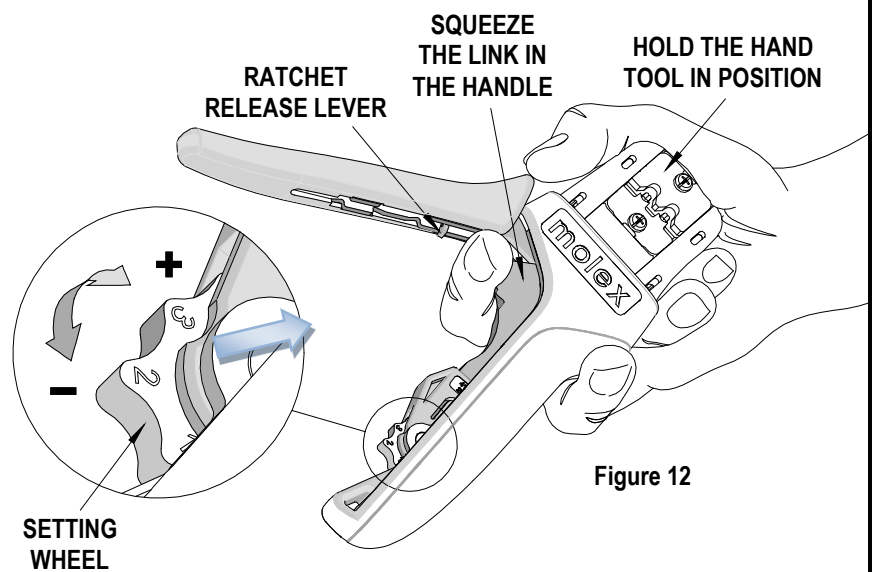

Figure 12
1. Hold the hand tool in the palm of your hand as shown in Figure 12. Using your index finger, squeeze the link toward the top of the hand tool frame. This will release the preload adjustment wheel.